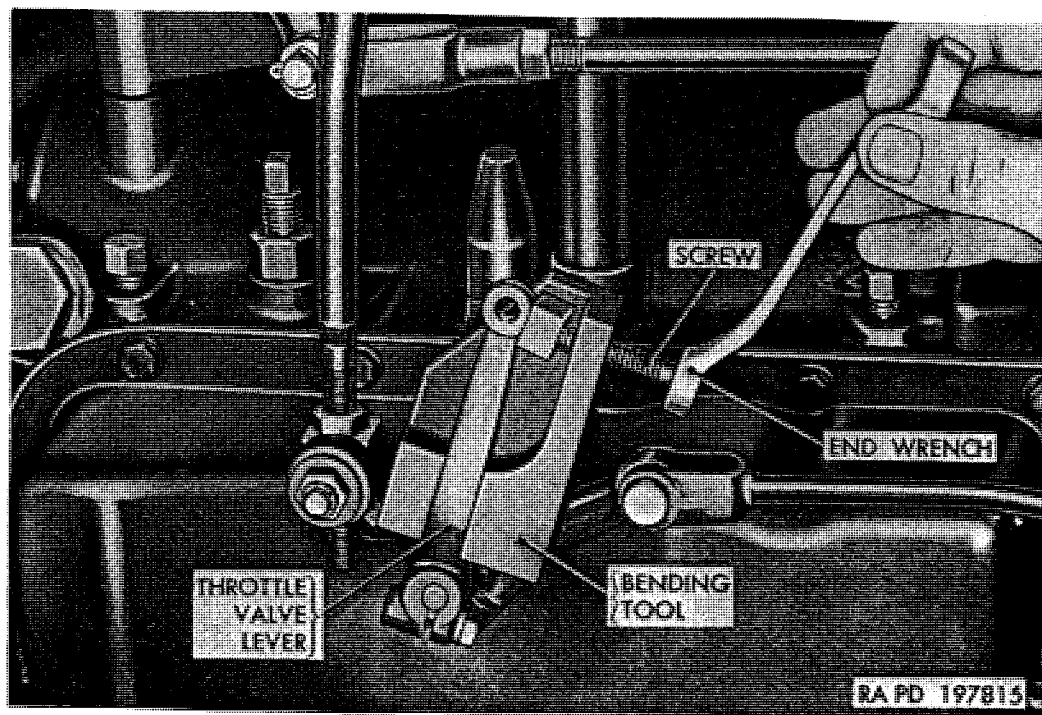

Figure 195. Using tool C7950171 to bend throttle valve lever.
- (c) If clevis pin cannot be freely inserted through hole in throttle valve lever and hole in gage B7950168, bend throttle valve lever with bending tool C7950171. Place bending tool on lever as shown in figure 195, or on opposite side of lever depending on direction bend is required. Turn screw in tool with wrench to bend lever.
- (c) If clevis pin cannot be freely inserted through hole in throttle valve lever and hole in gage B7950168, bend throttle valve lever with bending tool C7950171. Place bending tool on lever as shown in figure 195, or on opposite side of lever, depending on direction bend is required. Turn screw in tool with wrench to bend lever.
- (d) After correct adjustment is made, connect throttle valve control rod (K) to throttle valve lever (L) with clevis pin (M) and cotter pin.
- (e) Disconnect throttle valve control rod adjustable yoke (H) from lever of throttle control cross shaft bracket (G) by removing cotter pin and clevis pin (F).
- (f) Loosen jam nut (A) and turn adjusting screw (B) in as far as it will go; then push throttle cross shaft inner-lever-to-carburetor rod (C) against carburetor stop in open throttle position. While holding throttle cross shaft inner-lever-to-carburetor rod (C) in this position, back adjusting screw (B) out until it JUST TOUCHES stop on throttle cross shaft inner-lever-to-carburetor rod (C). Tighten adjusting screw jam nut (A).
- (g) Push down on accelerator pedal (P) until carburetor throttle overrule spring (E) is compressed and spring sleeve (D) is against stop; then adjust yoke (H) so that transmission throttle valve lever (L) is against stop and clevis pins are free.
- (h) Lengthen throttle valve control rod (K) by turning adjustable yoke (H) one turn; then tighten locknut. Secure clevis pin (F) with cotter pin.